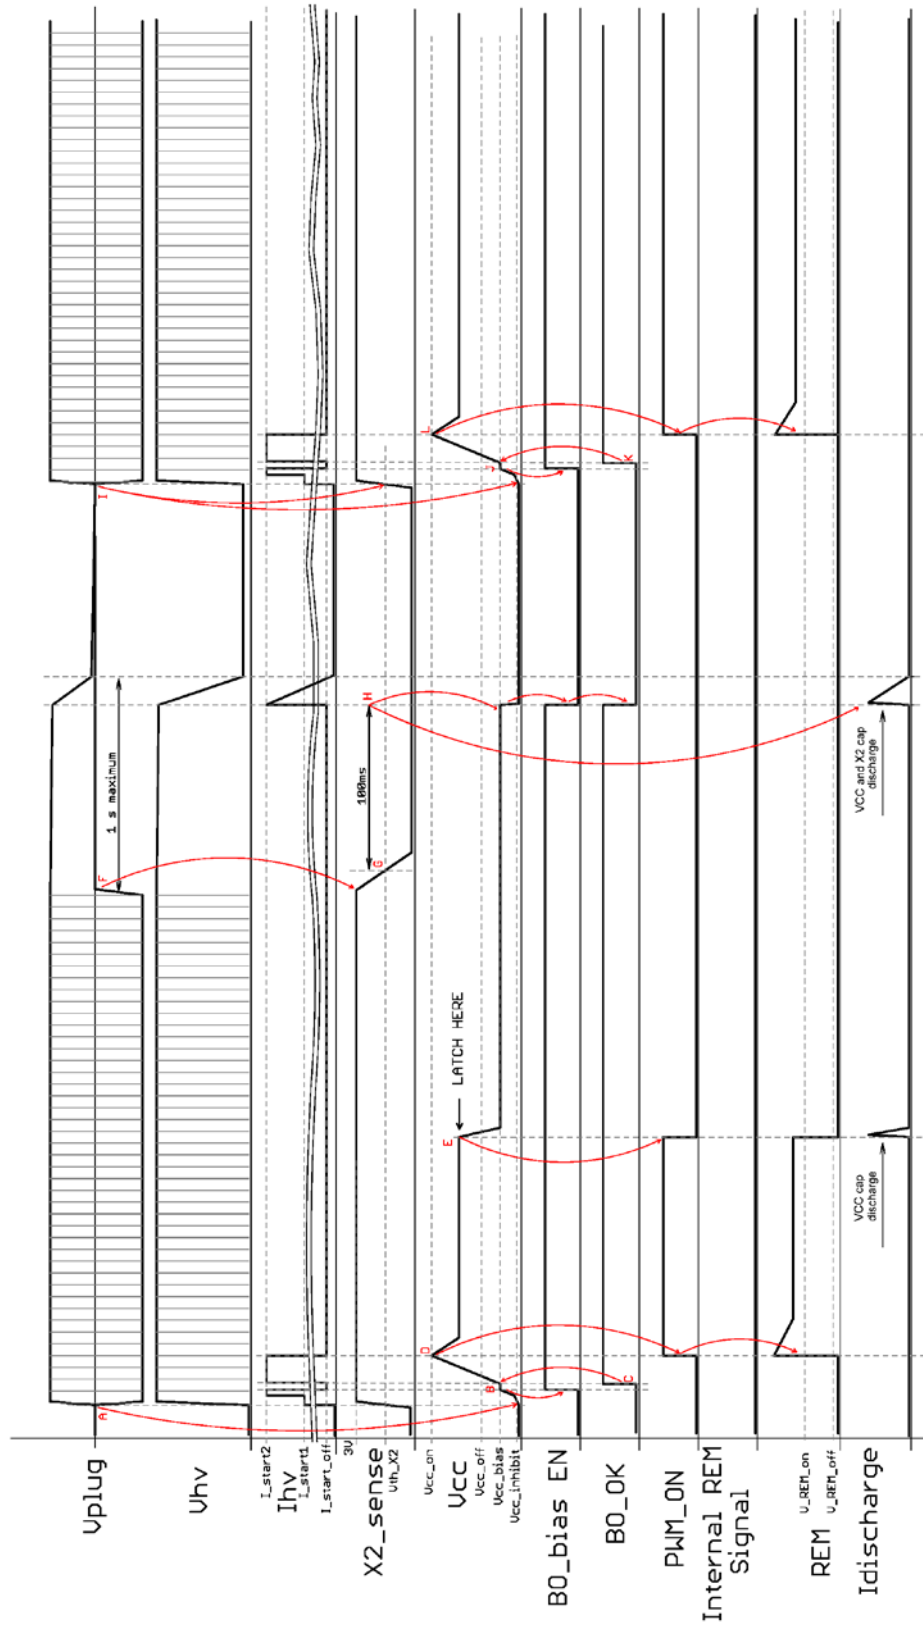

Figure 55. IC Operation Sequencing – Case 5 (Active OFF)
5. Application start, latch-off after 120 ms, AC line restart – Figure 55: